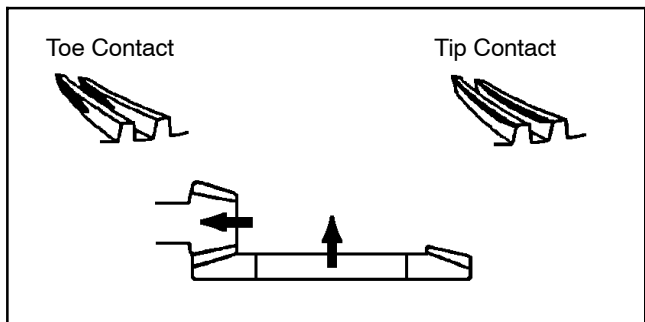

Figure 50
2. If contact is toward the toe or tip of the gear (Fig. 50):